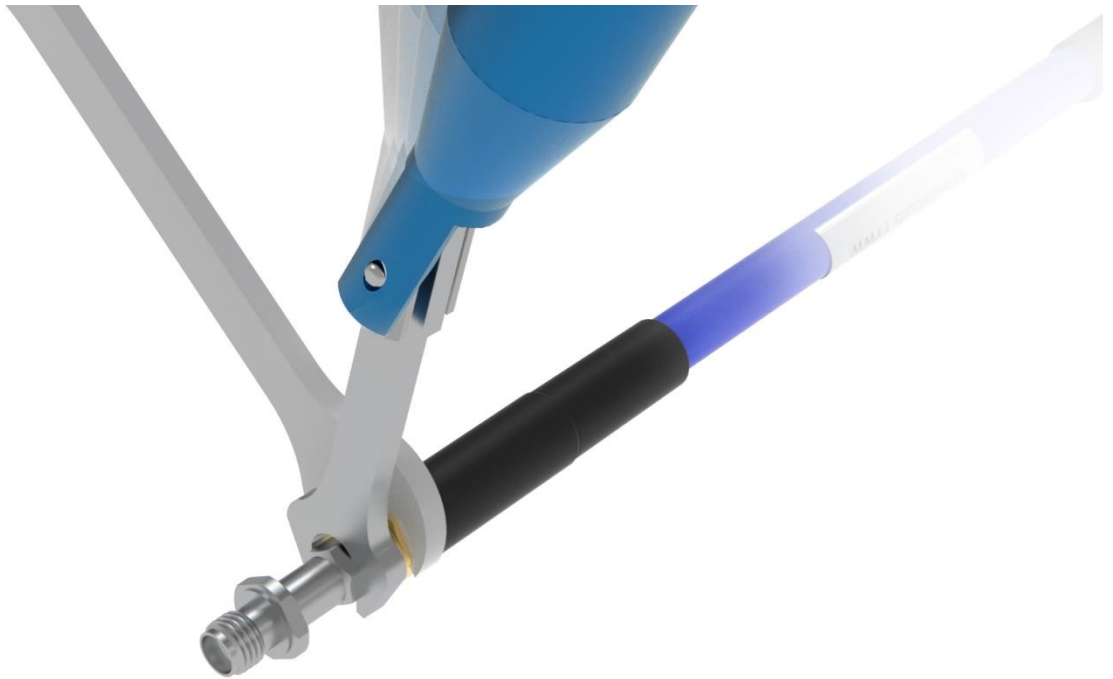

Figure 5: 1.0 mm adapter being torqued onto the end of a 1.0 mm cable showing the approximate rotation necessary for proper torque.
- a. Tighten the connection only until the handle has just broken over by approximately 15° as shown in Figure 5.